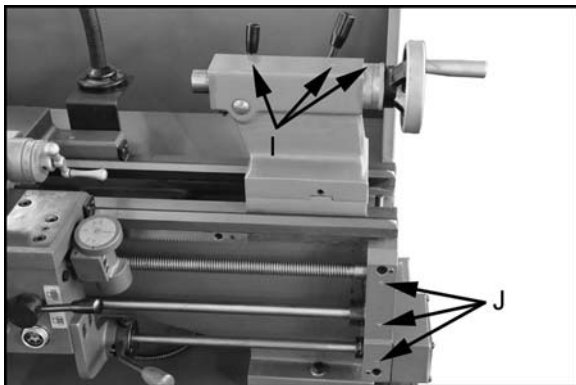

Figure 9
12. **Tailstock** - Lubricate three ball oilers (I, Fig. 9) once daily with Mobil DTE® Oil Heavy Medium.
13. **Leadscrew/Feed Rod** - Lubricate three ball oilers once daily (J, Fig. 9) with Mobil DTE® Oil Heavy Medium.